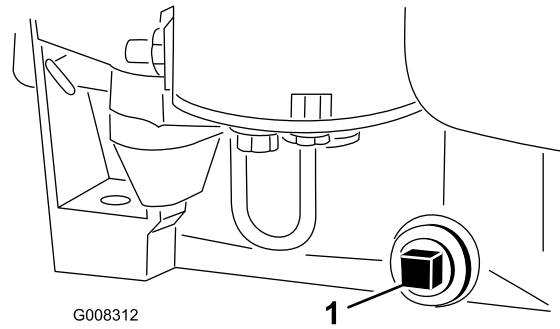

Figure 26
9. Remove the oil drain plug to allow oil to drain (Figure 26).